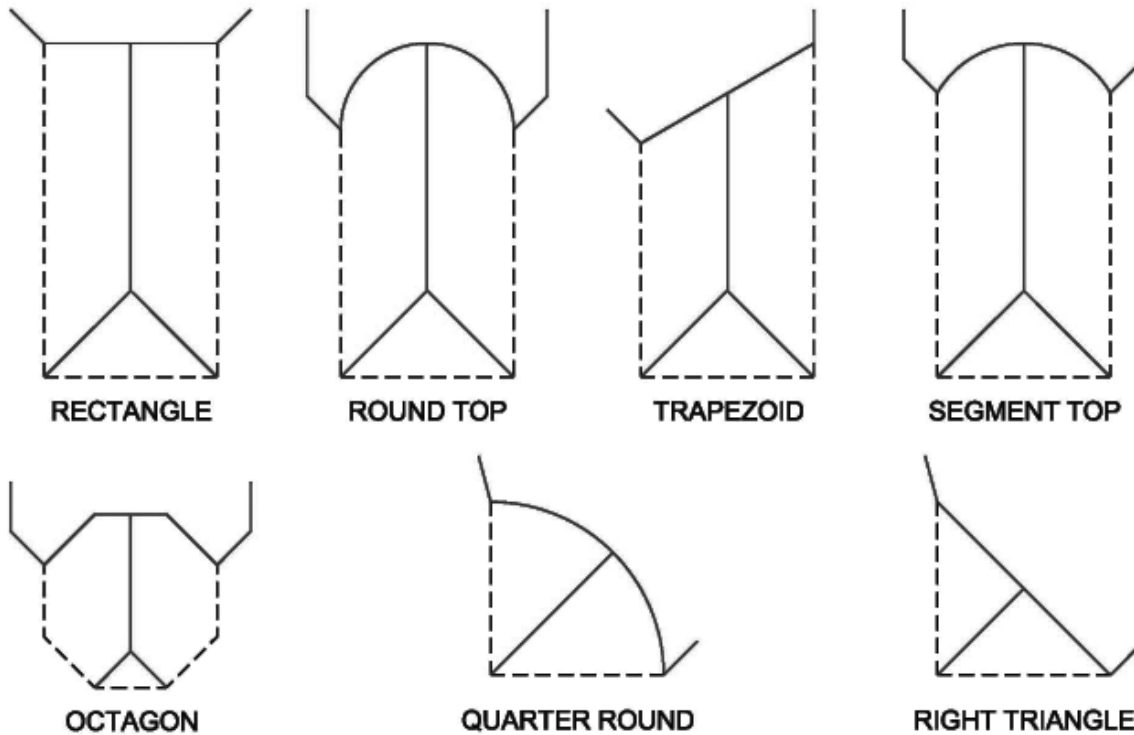

FIG. 6
K) Optional cutting patterns for radius and geometric shapes are shown in Fig. 6 below.